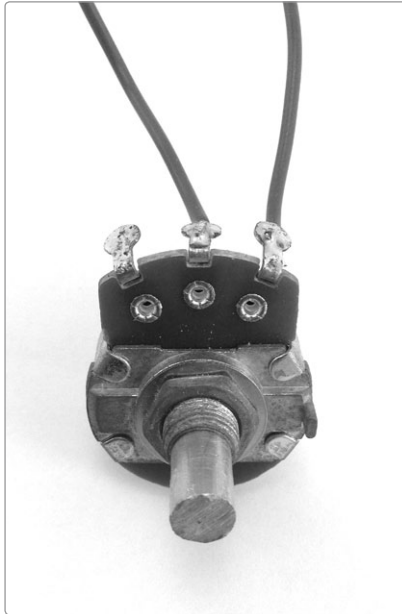

FIGURE 11-15: *The prepared volume control*
Step 16 Prepare the 10k ohm pot, which we'll use for volume control. Cut two 4-inch lengths of insulated wire and strip and tin both ends of each. Solder one wire to lug 2 of the 10k ohm pot and the other to lug 3, as shown in Figure 11-15.